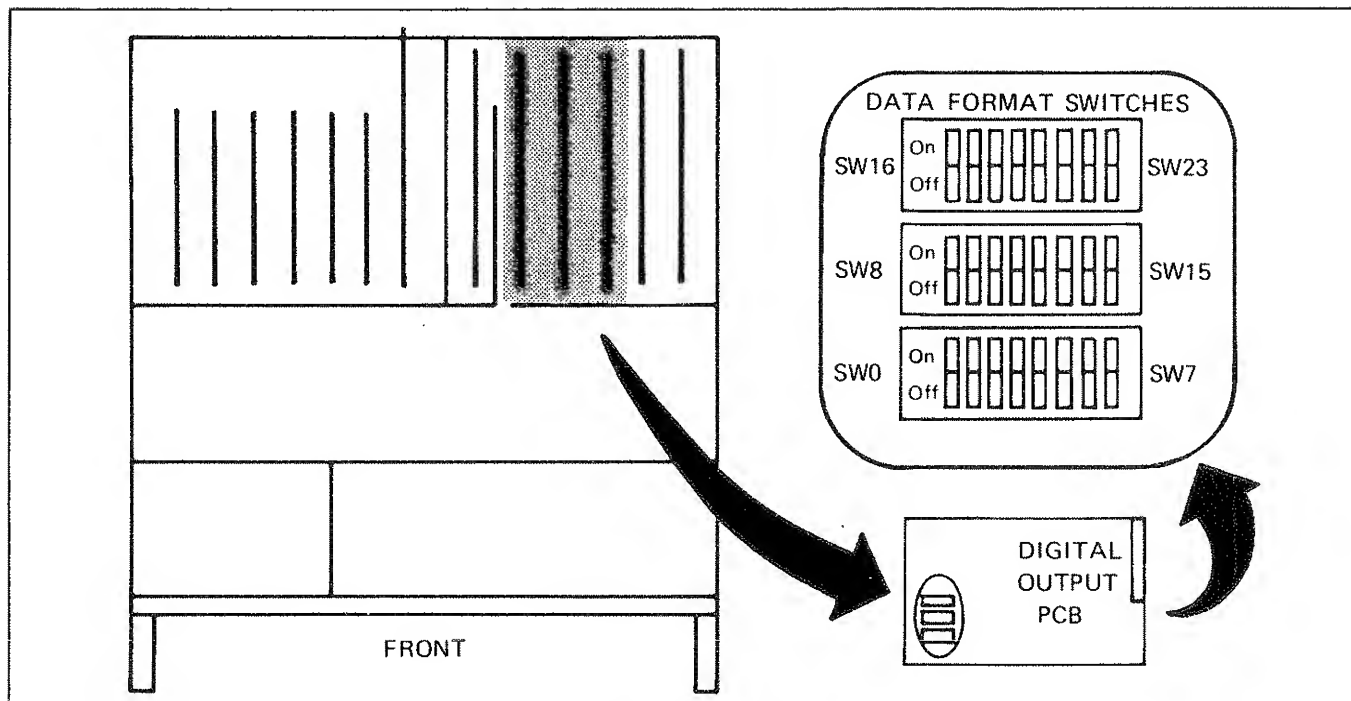

Figure 614-1. Digital Output PCB, Installation and Switch Locations
614-12. Up to three Digital Output PCB's can be mounted in the data logger's I/O slots, as shown in Figure 614-1. Install each
3. Locate the Data Format switches on each -14 Series Digital Output PCB, as shown in Figure 614-1.